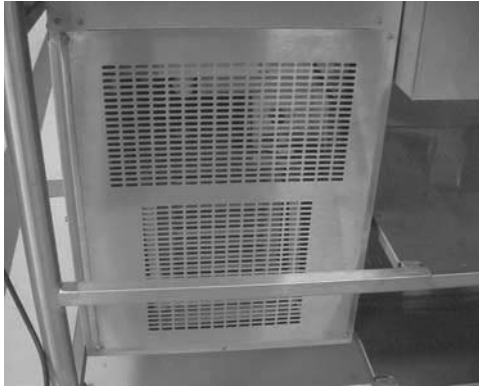

Figure 5
2. Using a Phillips's head screwdriver, remove the front (customer side), stainless steel panel. Figure 5.